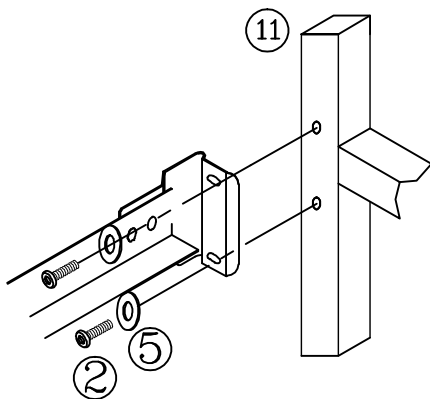

FIGURE 3
- Position footboard panel and align holes in the post (11) with holes in the frame bracket. (See figure 3)
- Place flat washer (5) on each screw (2). Insert through bracket and into post. Hand-tighten, DO NOT TIGHTEN screws all the way.